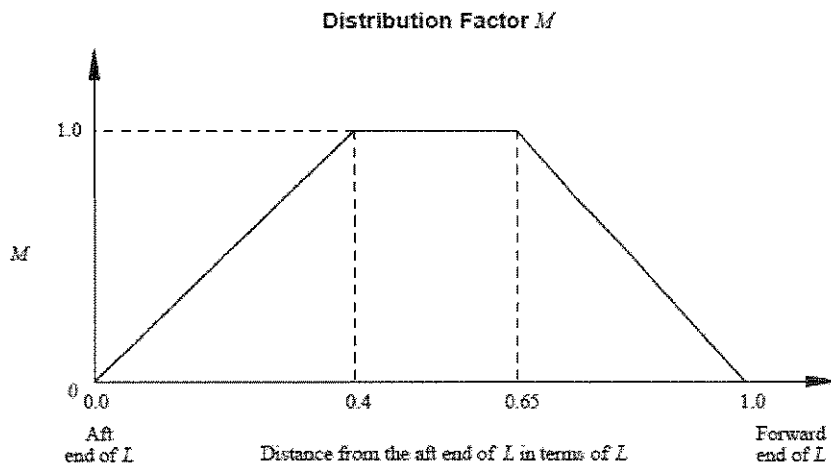

Figure 6
c) The Distribution Factor M envelope curve of wave bending moment extracted from Part 3, Chapter 2, Section1, Paragraph 3.5.2, Steel Vessels 2015 of ABS Rules Book is shown in Figure 6. Calculate the sagging wave bending moment of a ship amidships (between 0.4L to 0.65L from aft end) in accordance with the ABS Rules Book and determine the wave bending moments at 0.3L and 0.7L from aft end.